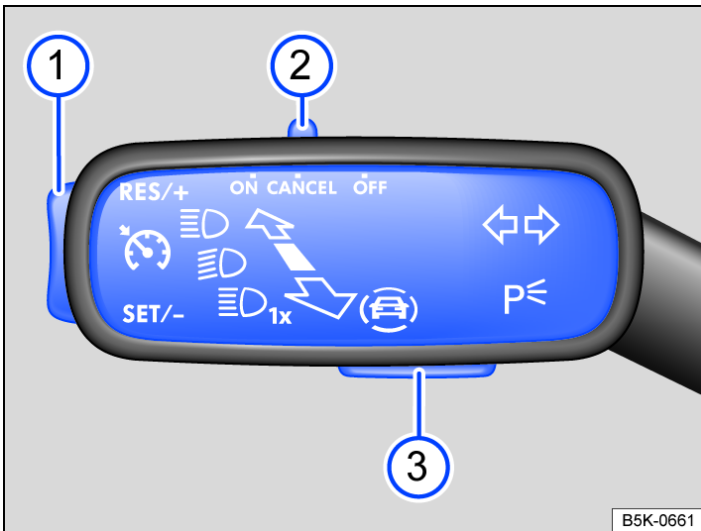

Fig. 1 On the left of the steering column: switch and buttons for operating the speed limiter.
— Move switch → Fig. 1 ② to position **ON**.
— Press button → Fig. 1 ① in the area **SET/-** while driving.